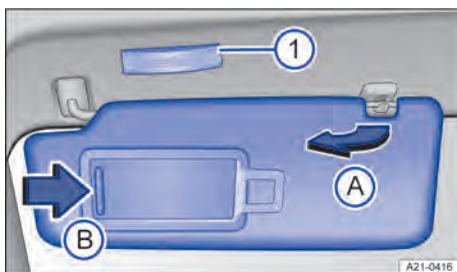

Fig. 92 In the front headliner: sun visor.
2. Pull out of the bracket and swing over towards the door → Fig. 92 A.
1. Slide the cover open in the direction of the arrow → Fig. 92 B.
The light → Fig. 92 ① will go out when the vanity mirror cover is pushed back or the sun visor is folded back up.